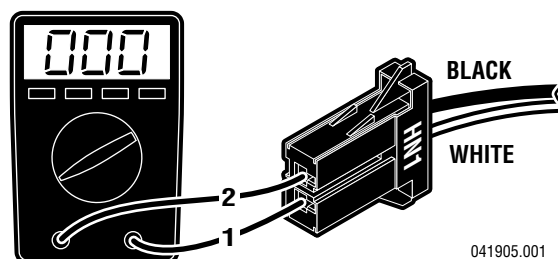

Figure 5-1. Connector HN1 Test
3. Use an AC voltmeter capable of measuring 120 VAC and measure the voltage between pins 1 and 2 (black and white wires) located in connector HN1. See figure 5-1. You should receive line voltage 120 VAC.